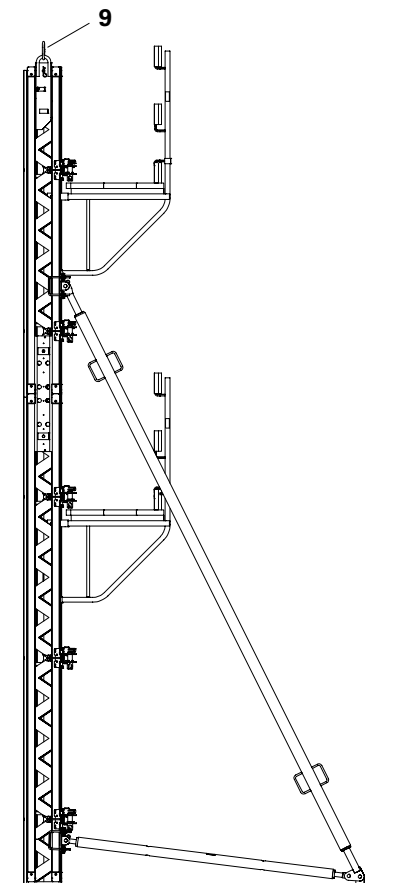

Fig. A4.05
8. Attach push-pull props and kickers to dowelled base plates. (Fig. A4.05)